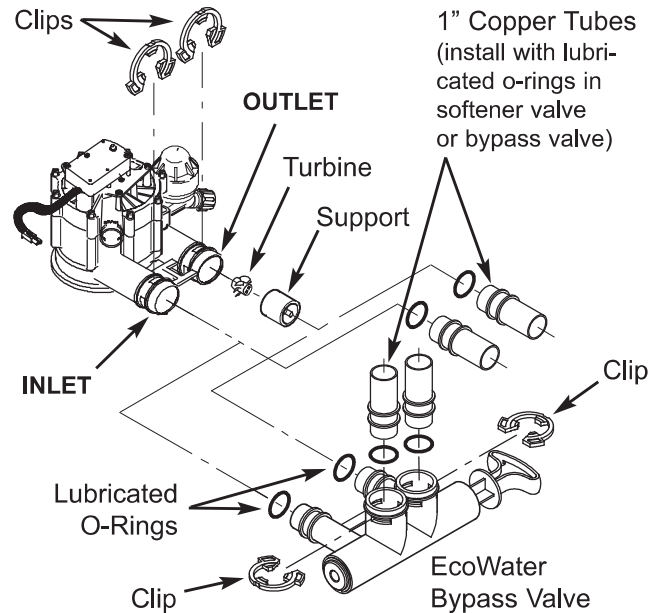

FIG. 10
- a. If installing a single bypass valve, push the bypass valve, with lubricated o-ring seals in place, into the valve inlet and outlet ports (See Figure 10).
- b. If installing a 3-valve bypass system, slide copper tubes, with lubricated o-ring seals in place, into the valve inlet and outlet ports, respectively (See Figure 10).